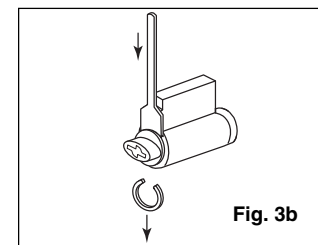

Fig. 3b
- Using retainer removal tool, push against retainer ring until it pops off cylinder plug. (Note: make sure to push ring in opposite direction of your body; piece is small and likely to fly loose if pushed too hard). (Fig. 3b)